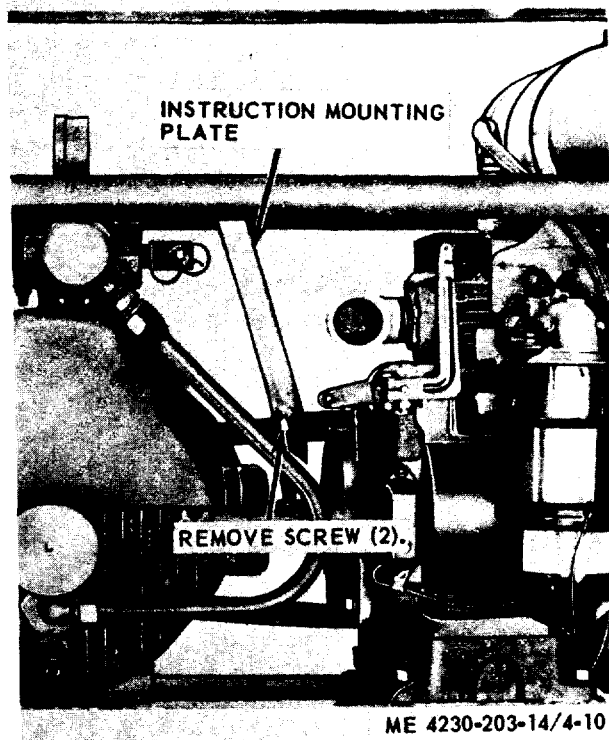

Figure 4-10. Instruction mounting plate, removal and installation.
a. Removal. Refer to figure 4-10 and remove the instruction mounting plate.